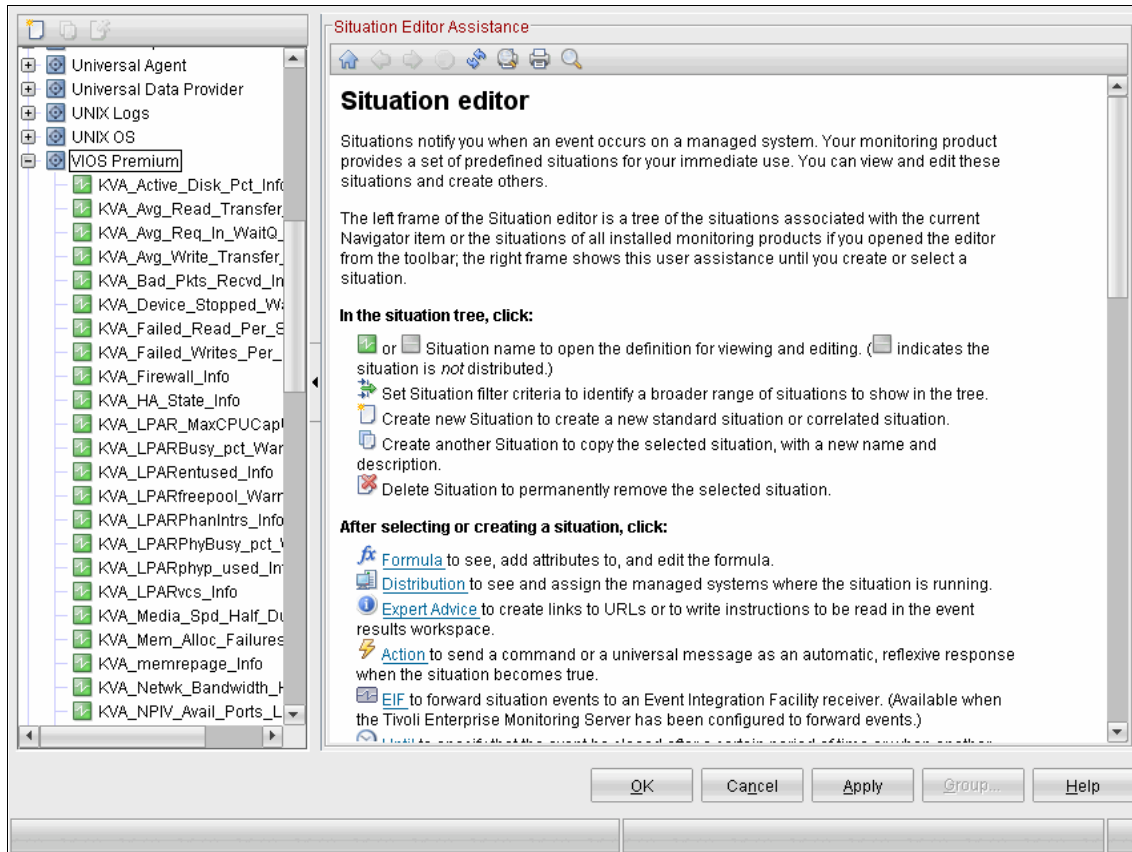

Figure 18-16 Assistance window for Tivoli Monitoring Situation editor
1. Select **Edit** → **Situation Editor** from the IBM Tivoli Monitoring Desktop Client, or use the Ctrl+E shortcut. The Situation editor launches and displays a list of available agents in the left pane, and some user assistance is displayed in the right pane, as shown in Figure 18-16.